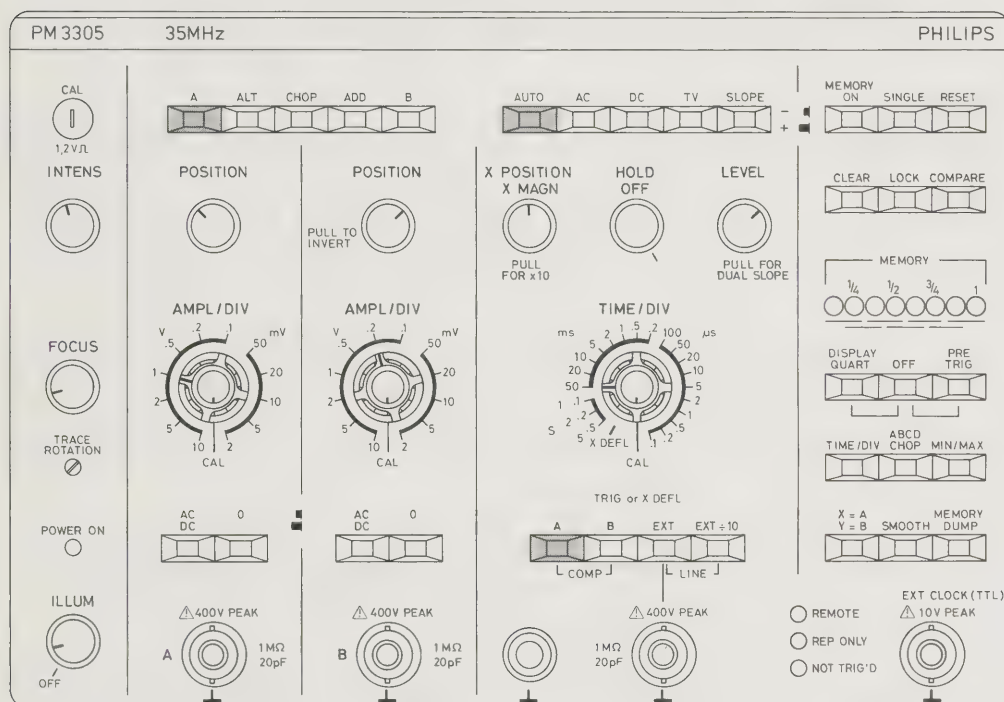

Fig. 4.16. View of controls
- Depress the pushbuttons as indicated in Fig. 4.16 below.